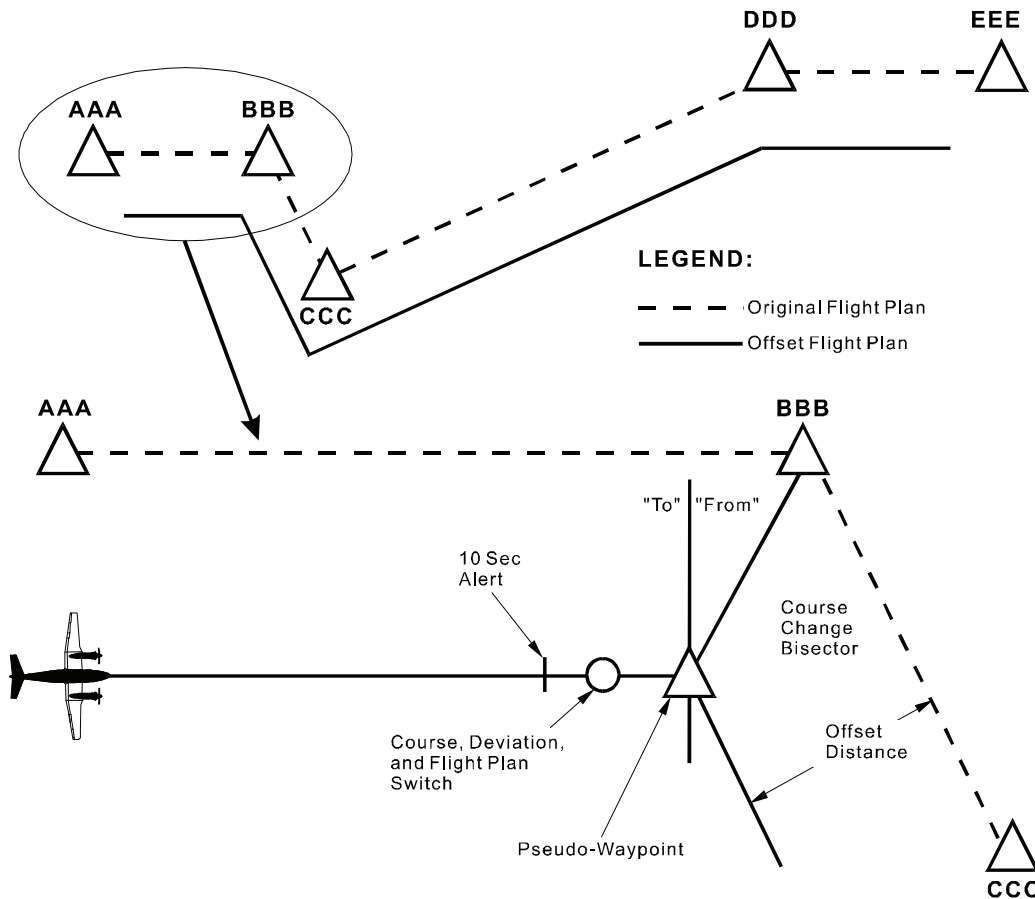

Figure 3B-45. Parallel Course Offset Geometry
(2) *Parallel Offset Initiation, Termination, Or Change.* Parallel course offsets may be applied, changed, or deleted any time the active waypoint is not identified as a pattern or an approach waypoint. Refer to Figure 3B-46 and Table 3B-36 for an illustration of application and deletion of parallel course offset. If the waypoint identified as a pattern or an approach waypoint fix becomes the active waypoint or FLYOVER sequencing is selected while an offset is defined, the offset is automatically canceled and the aircraft will capture the original flight plan course. If a pattern or approach is applied to an active waypoint with an offset applied, the offset is automatically canceled. Initiation of the Direct-To function automatically cancels the parallel offset. Refer to Figure 3B-47.